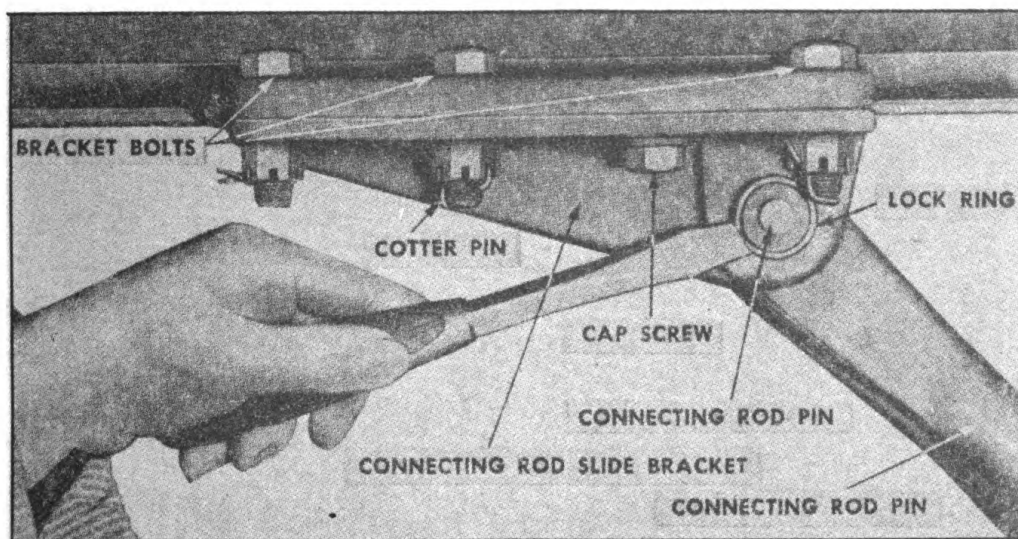

FIGURE 61. REMOVING CONNECTING ROD
5. REMOVING OPERATING PARTS FROM THE I-BEAM (Figure 61).—*a.* Disconnect the connecting rod from connecting rod bracket.
(2) Remove support crank handle and bracket.
(3) Remove lock ring from right side of hinge pin (Figure 61) and drive pin out.
(4) CAUTION: When driving king pin out, the rear end of connecting rods will fall to the ground. Keep clear to prevent injuries.